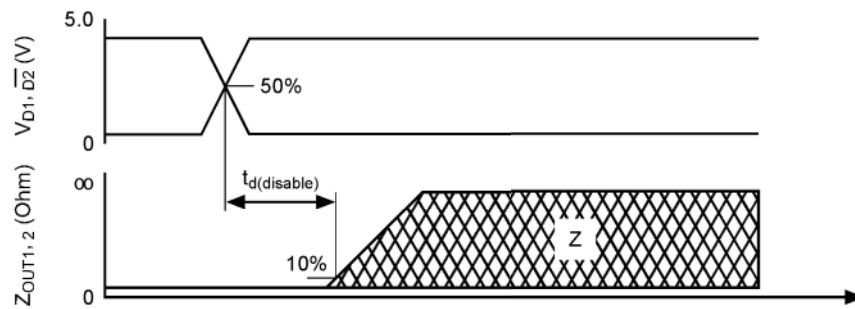

Figure 3. Disable Delay Time
- Output Delay is the time duration from the midpoint of the IN1 or IN2 input signal to the 10% or 90% point (dependent on the transition direction) of the OUT1 or OUT2 signal. If the output is transitioning HIGH-to-LOW, the delay is from the midpoint of the input signal to the 90% point of the output response signal. If the output is transitioning LOW-to-HIGH, the delay is from the midpoint of the input signal to the 10% point of the output response signal. See Figure 3.
- Disable Delay Time is the time duration from the midpoint of the D (disable) input signal to 10% of the output tristate response. See Figure 3.